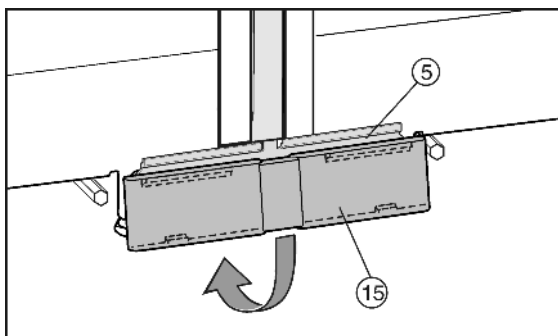

Fig. 11
- ▶ Fit the bottom cover *Fig. 11 (15)* from above onto the joining plate *Fig. 11 (5)* and snap it in at the bottom.